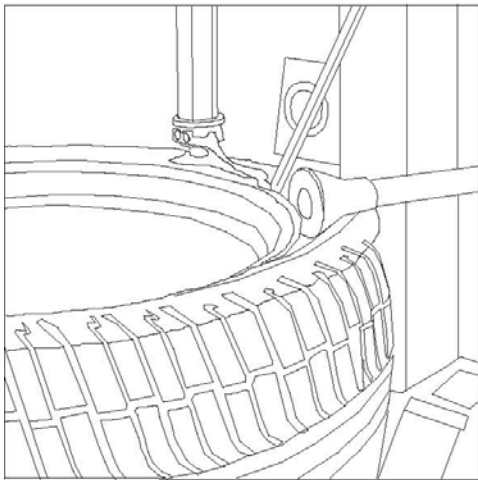

Figure 6-1
- 1) Auxiliary fixes of dismounting head and insert crowbar Dismantle the side of tire according to correct rim size, press the upper side of tire with tire press roller ,fix the dismounting head and insert crowbar(figure 6-1),move up the tire press roller and remove it, you can move the upper rim of tire to the dismounting head.